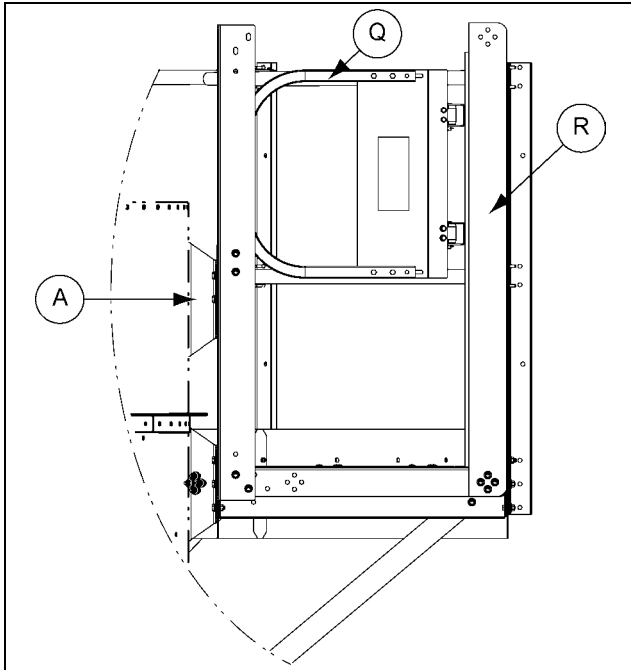

Figure 5H
9. Install the gate assembly (Q) to the gate post (R). (See Figure 5H.)